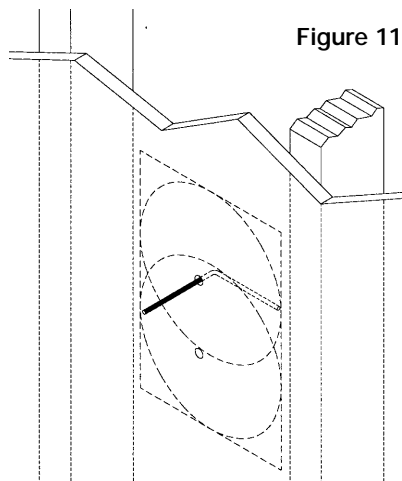

Figure 11
1. Drill a 1/8" pilot hole just barely through the wallboard or dry wall (1/2" to 5/8" deep in most homes) about an inch below the center of your proposed speaker location (an inch to the side if you are mounting the speaker horizontally). **BE VERY CAREFUL NOT TO DRILL THROUGH EXISTING WIRES, PIPES, OR STRUCTURE.** If you feel any extra resistance as you are drilling, **STOP.** Cut a piece of coat hanger equal to the width of the bracket. Bend the wire in half creating a right angle. Poke the "L-shaped" wire into the pilot hole and turn it in a complete circle. If it turns freely, repeat the procedure from a hole about an inch above the center of your proposed speaker location (**See Figure 11**).